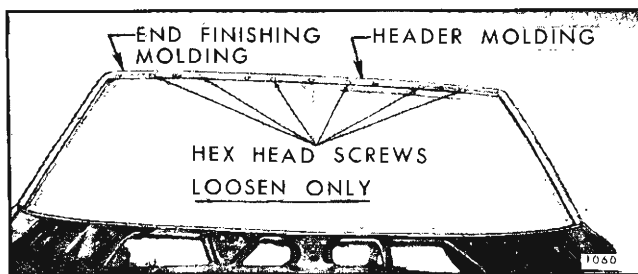

Fig. 1C6—Header Molding
4. Loosen windshield header molding hex head attaching screws (Fig. 1C6).